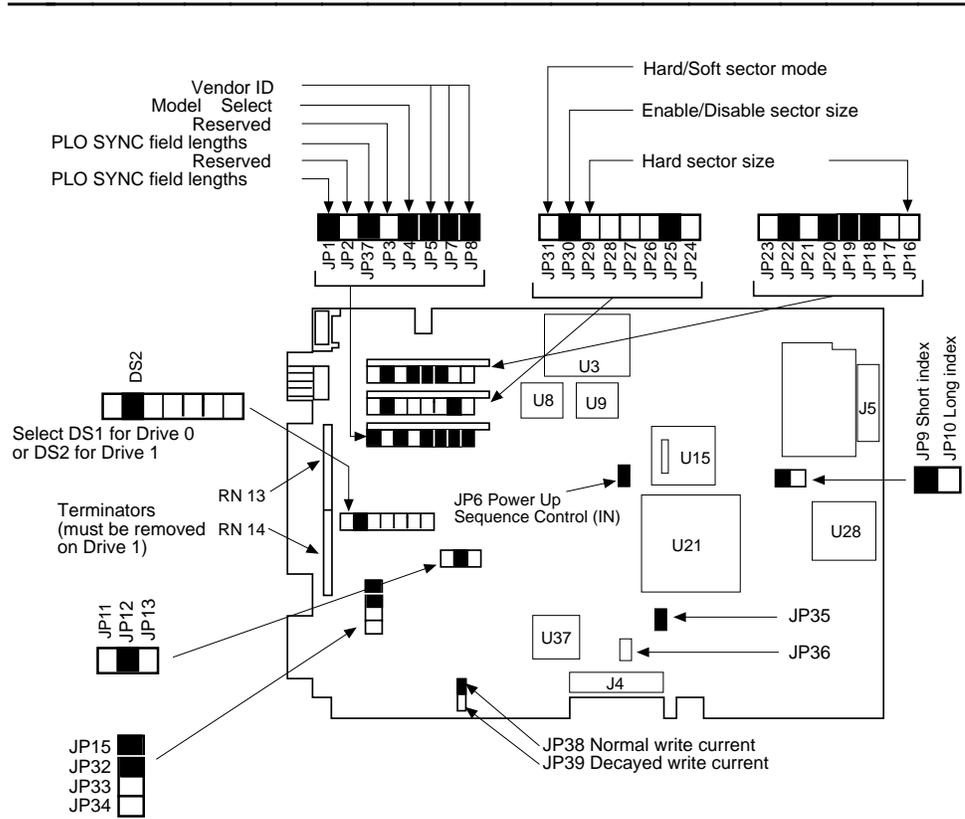

Figure 10-6. Jumper Settings for the ESDI Hard Disk Drive
1. Attach the SCSI cable by aligning it with the gold fingers on the cable receptacle and pushing it on. All connectors are "keyed" to prevent incorrect installation (see Figure 10-6).
4. Verify that all jumpers are correctly positioned as shown in Figure 10-6.